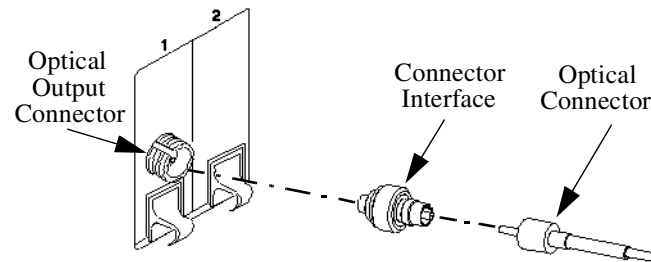

Figure 193 Adding a Connector Interface
- 2 Connect the connector interface to the optical output connector of the module, see Figure 193.